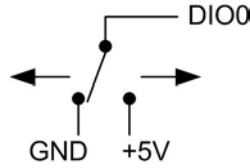

Figure 4. Schematic showing switch detection by digital channel DIO0
When you configure the digital bits for input, you can use the RedLab E-TC digital I/O terminals to detect the state of any TTL-level input. Refer to the schematic shown in Figure 4. If you set the switch to the +5V input, DIO0 reads *TRUE* (1). If you move the switch to GND, DIO0 reads *FALSE* (0).